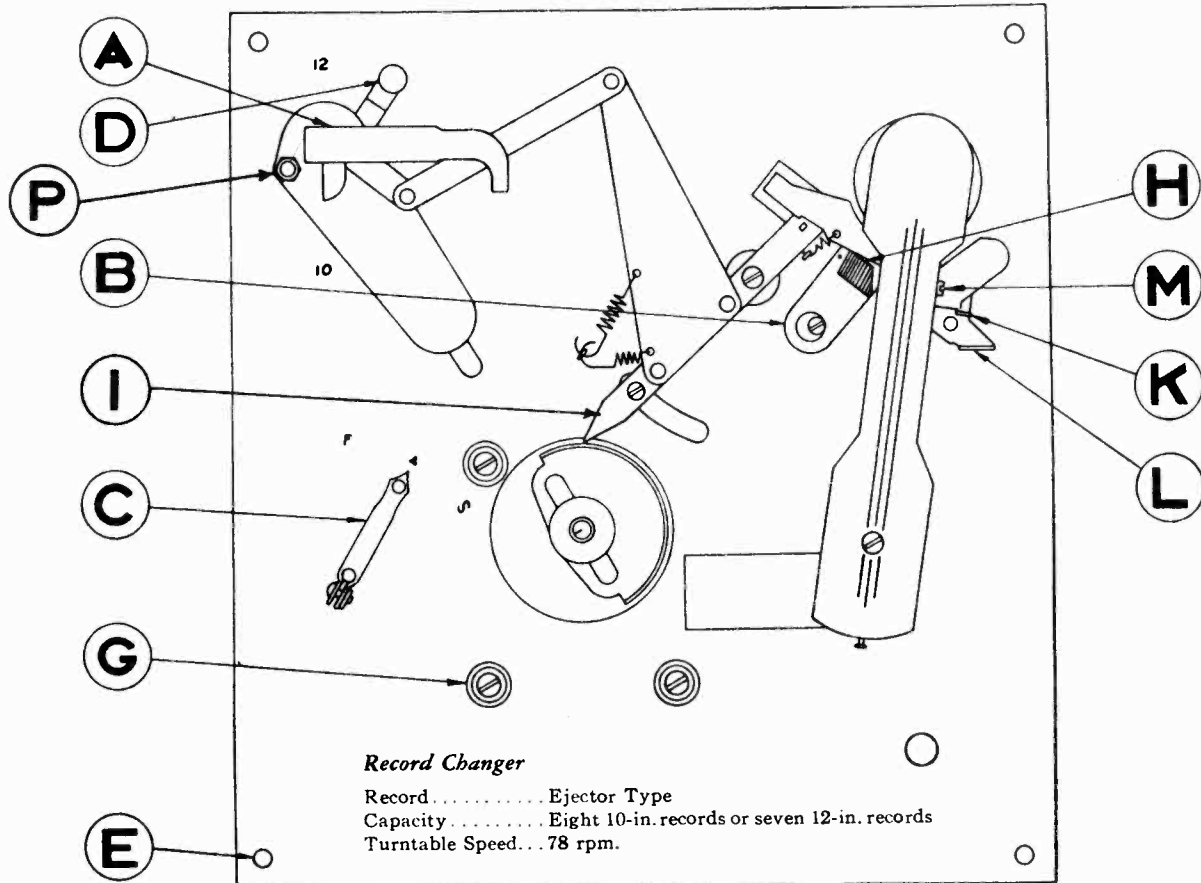

Fig. 8. Automatic Record Changer Mechanism
To play 12-inch records, referring to Figure 8, pull the thumb stop (K) on the right-hand side of the tonearm forward which allows the needle to locate on the edge of the record, also push the knob (D) at the left rear corner of the changer from 10 inch to 12 inch as marked on the base plate. Either 10-inch or 12-inch records may be repeated as often as desired by lifting the record removing arm (A) to an upright position.
Place the tonearm of the record changer in the position which results when the latch bar (I) is against the turntable motor cam at its furthest operating throw. (This position is the other extreme of the operating cycle as shown on Figure 8.) The tonearm stop should be against the cone-shaped cup of the dash pot while in the 10-inch position.